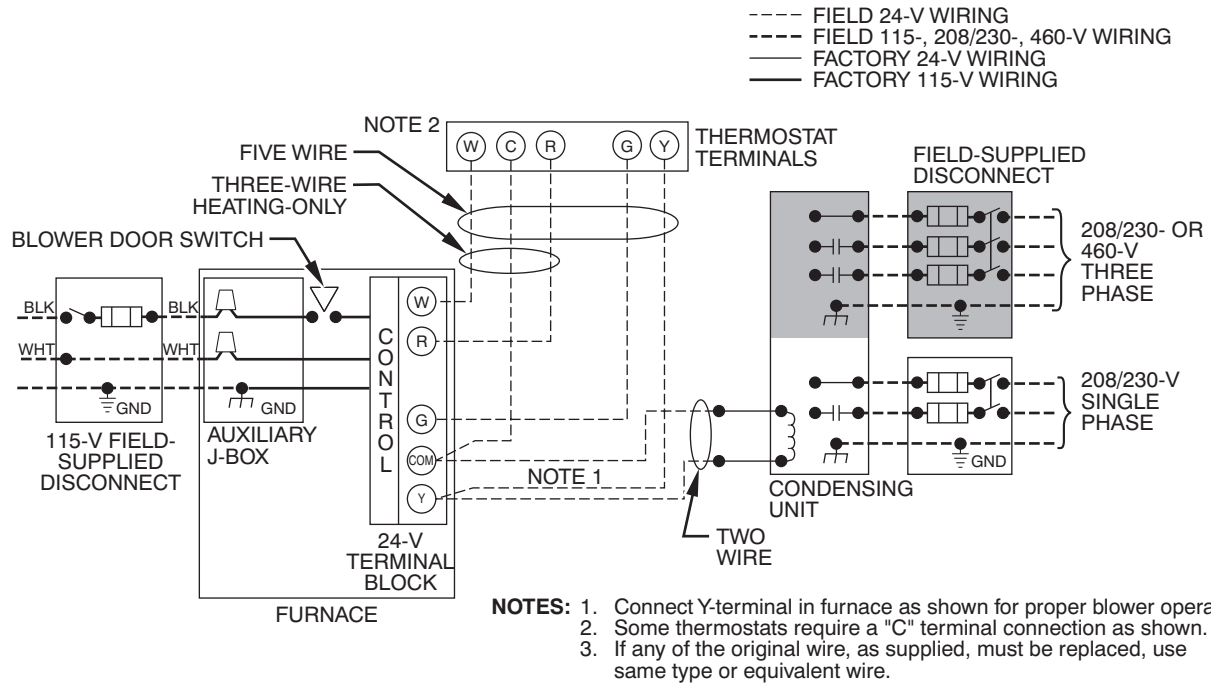
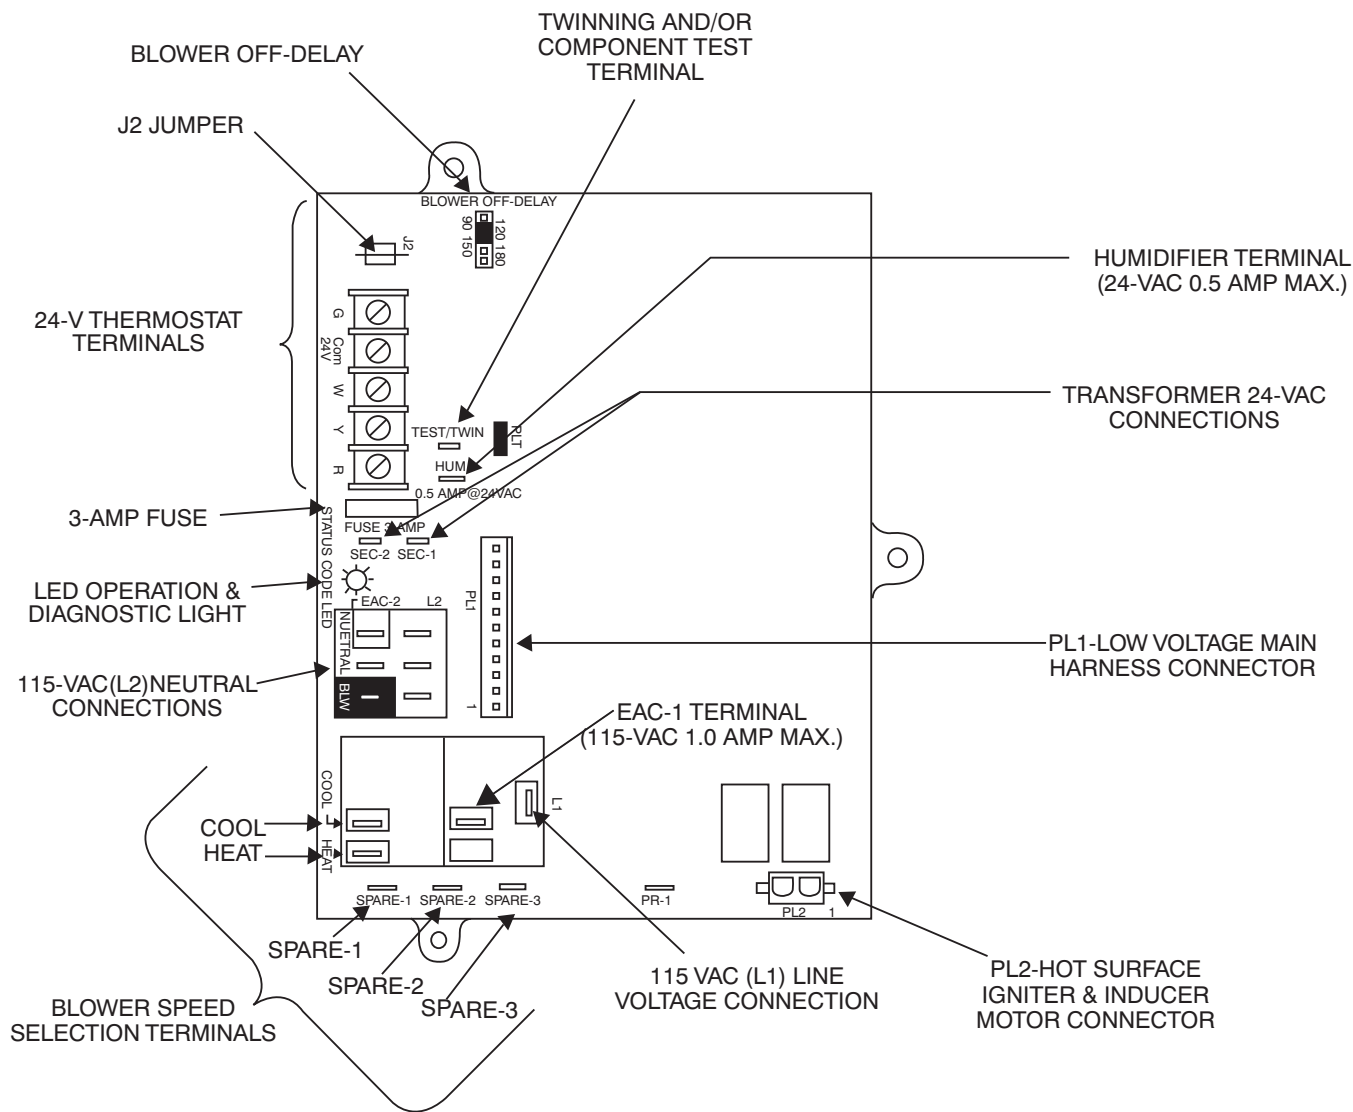

Fig. 39 – Typical Single-Stage Wiring Diagram
Fig. 40 – Example of Single Stage Furnace Control
6. Connect power cord power and neutral leads to furnace power leads as shown in Fig. 39.
5. Connect field power and neutral leads to furnace power leads as shown in Fig. 39.
Make field 24-v connections at the 24-v terminal strip. See Fig. 40. Connect terminal Y as shown in Fig. 39 for proper cooling operation. Use only AWG No. 18, color-coded, copper thermostat wire.
The 24-v circuit contains an automotive-type, 3-amp. fuse located on the control. Any direct shorts during installation, service, or maintenance could cause this fuse to blow. If fuse replacement is required, use ONLY a 3-amp. fuse of identical size. See Fig. 40.